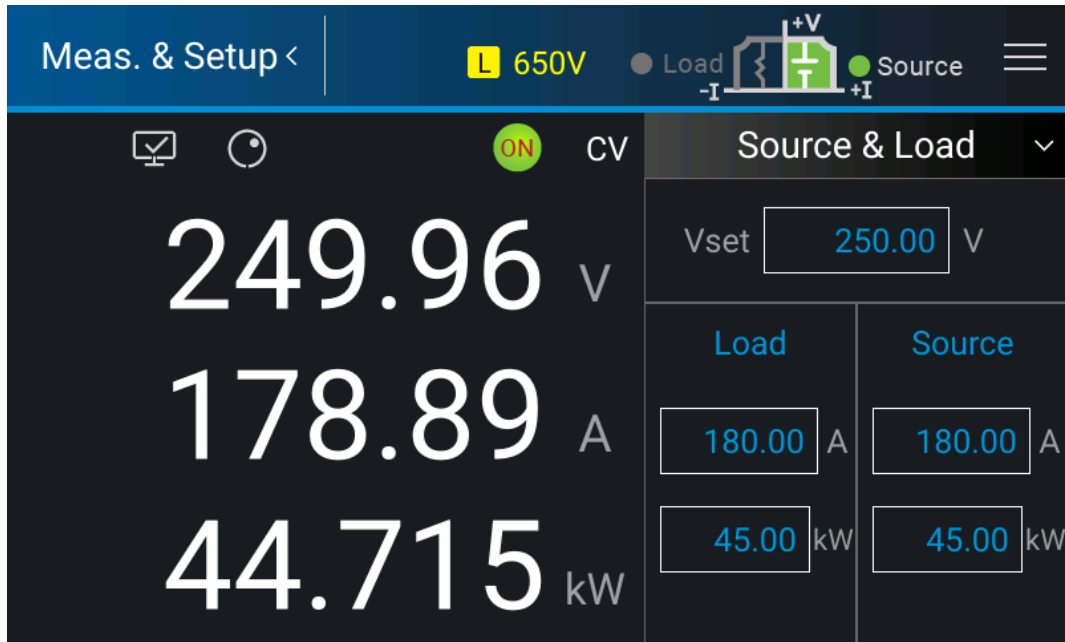

Figure 3-4
1. Tap the drop-down menu and select Source Mode; the panel will switch to the screen as Figure 3-4 shows.